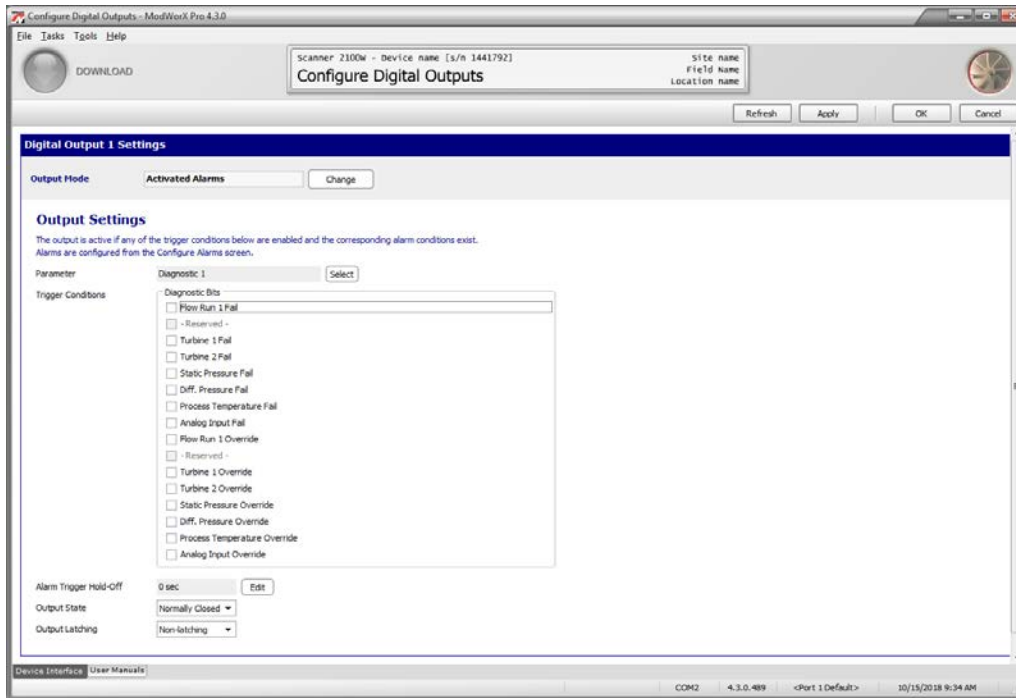

Figure 7.13
- If a diagnostic parameter is chosen in step 3, check the diagnostic bits that you want to generate a digital output (Figure 7.13, page 94). Up to 16 diagnostic bits can be selected as triggers for each diagnostic parameter.